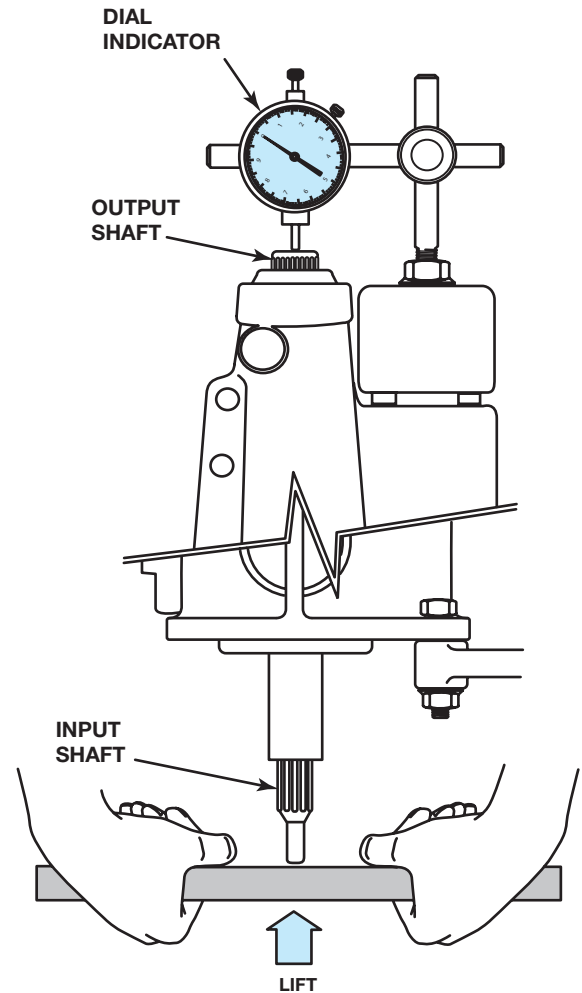

FIGURE 8-92 A dial indicator has been set up to measure the end play that occurs as the cluster gear is lifted and dropped.
3. Install a dial indicator with the indicating stylus at the end of and parallel to the shaft (Figure 8-92). Move the shaft up and down through its free travel several times while reading the end play or clearance on the dial indicator.